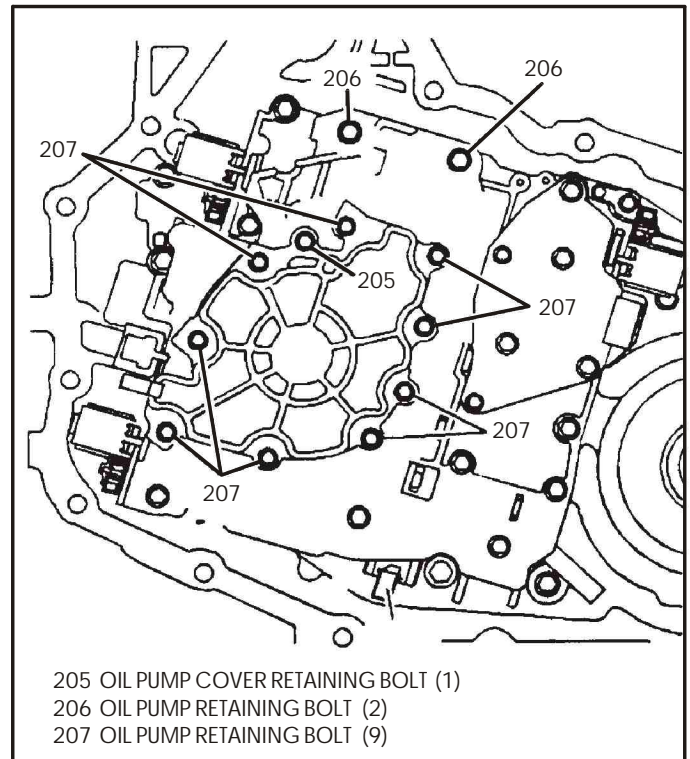

Figure 47
7. Remove the indicated oil pump bolts (206) and (207), as shown in Figure 47.
8. Do not remove the one oil pump cover bolt (205) at this time (See Figure 47).
9. Remove the one wiring harness retaining clip (390) for the TFT as shown in Figure 47.